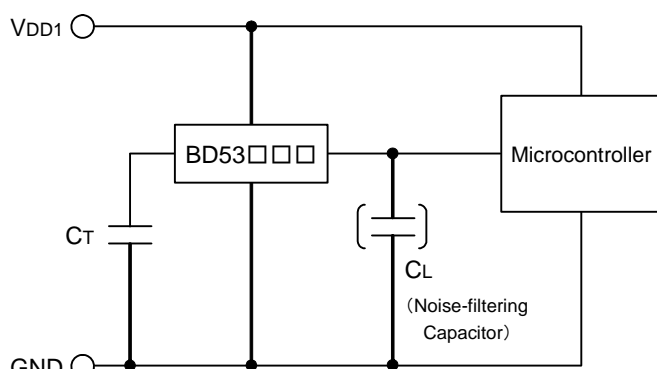

Fig.7 CMOS Output Type
The power supply of the microcontroller (VDD1) is same as the power supply of the reset detection (VDD1). Use CMOS output type (BD53□□G/FVE) or open drain output type (BD52□□G/FVE) attached a load resistance (RL) between the output and VDD1. (As shown Fig.7)